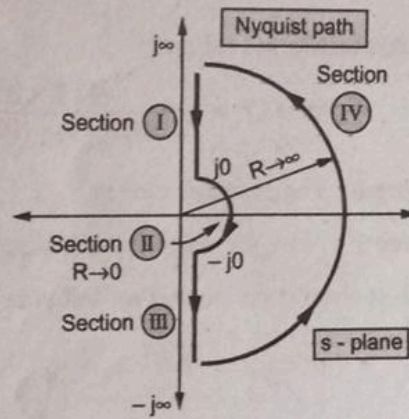

Fig. 12.13.1
**Step 3 :** Pole at origin hence Nyquist path is as shown in the Fig. 12.13.1.